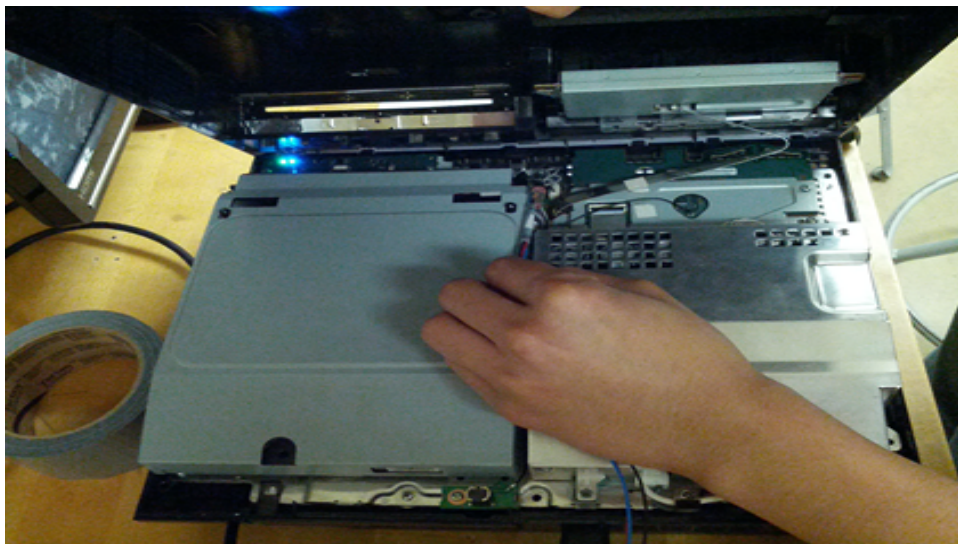

Figure 5 - Placement of the RTD in the PS3.
1. Open the lid to the PS3, place the RTD inside the PS3 between the power supply unit and blue ray player as shown in Fig. 5. The power supply is on the left. The blue ray player is on the right. The RTD uses convection to measure the internal temperature of the PS3. The thermistor has already been placed directly on the CPU heat sink and will serve as a warning if core temperature reaches critical levels. The thermistor uses conduction to measure CPU temperature.